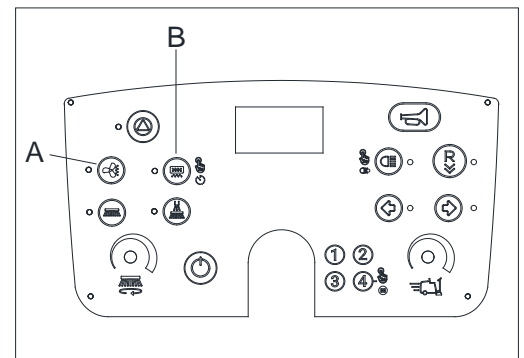

Figure 10
When operating on wet surfaces, press the dust fan button (A, Figure 10) to turn off the vacuum system to prevent damage to the dust filter.
5. For the machine to operate properly, the filter must be kept as clean as possible. Press the filter shaker button (B, Figure 10) to activate the dust shaking function. During this process, the vacuum motor will automatically turn off. After dust shaking, the vacuum system will automatically resume operation and then continue cleaning. During operation, press the filter shaker button (B, Figure 10) for 2 seconds to start the "Automatic Filter Dust Shaking" mode, which repeats the automatic dust shaking process every 10 minutes on average (the repetition interval can be modified in settings, and users can adjust it based on the dust level in the cleaning area).